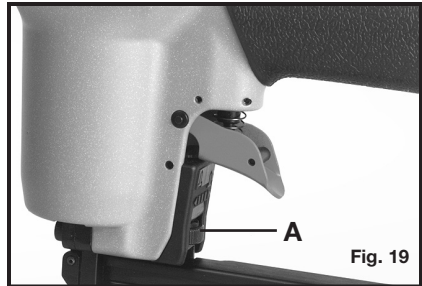

Fig. 19
The depth to which a fastener is driven is controlled by the depth adjustment knob (A) Fig. 19. The depth of drive is factory adjusted to a nominal setting. Test fire a fastener and check depth. If a change is desired, rotate the adjustment knob (A) Fig. 19: the adjustment knob has detents every $\frac{1}{4}$ turn. Rotate the knob clockwise (see Fig. 19), to increase the depth of drive,